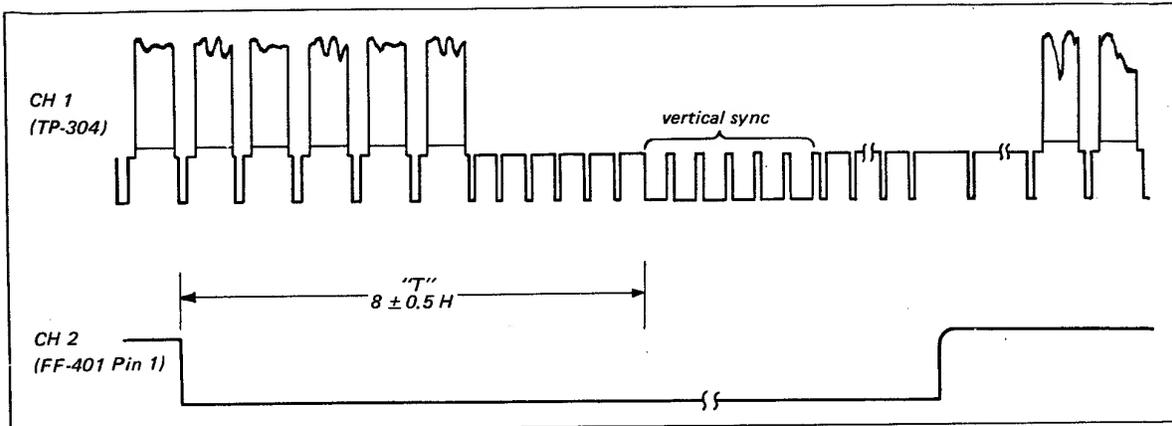

Fig. 6-7. 30 PG coil position
See Fig. 6-7
4. Pull out the 5X magnifier and adjust the POSITION control to observe the second vertical blanking interval as shown in Fig. 6-7.
5. Check that the interval "T" shown in Fig. 6-7 is 8 ± 0.5 H (horizontal lines).